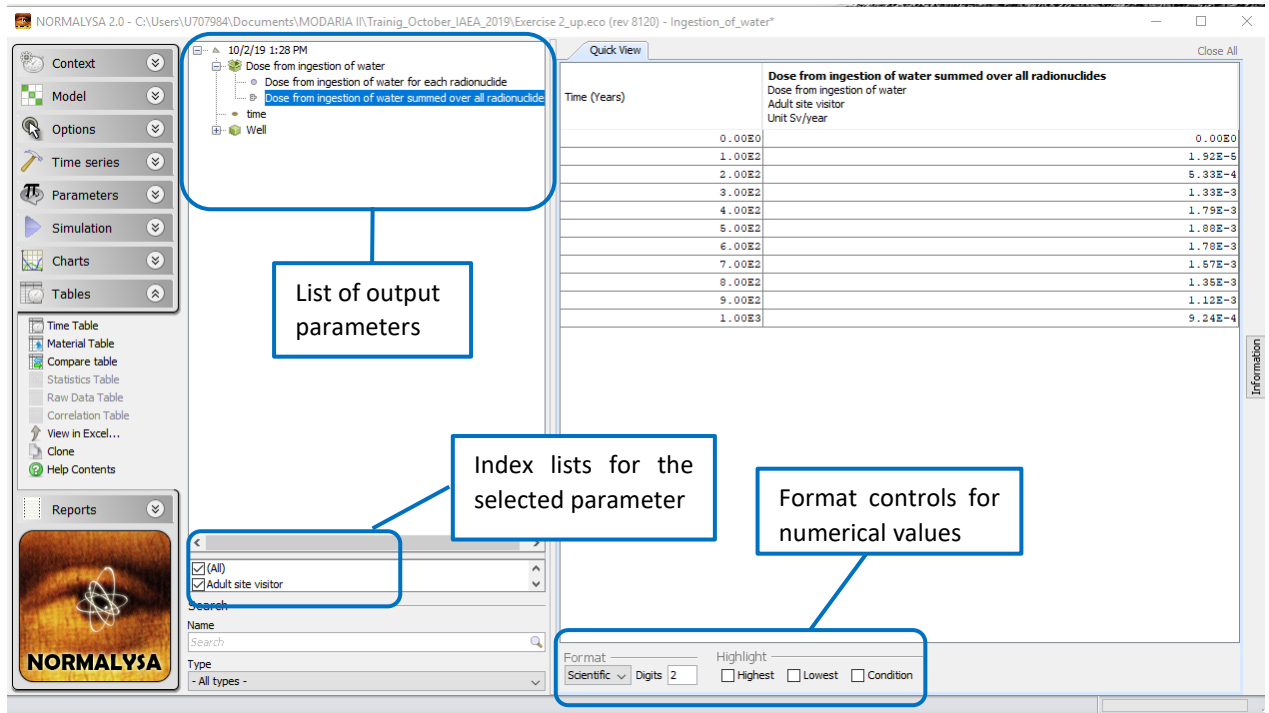

FIG 18. Displaying the table with the calculated doses from ingestion of water to reference persons considered in Exercise 2.
3. The time table displaying results of dose calculations for drinking water pathway will be shown in ‘*Quick View*’ window (FIG 18).